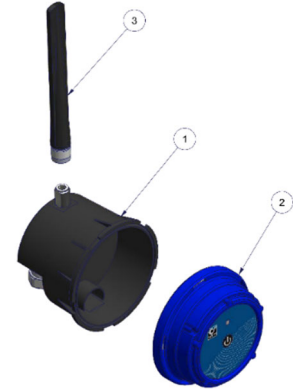

Figure 1 MD35 parts
- (1) or (A): Circled numbers and letters in the text refer to the parts described in Figure 1 and 2 respectively (example: Figure 1 - page 5)